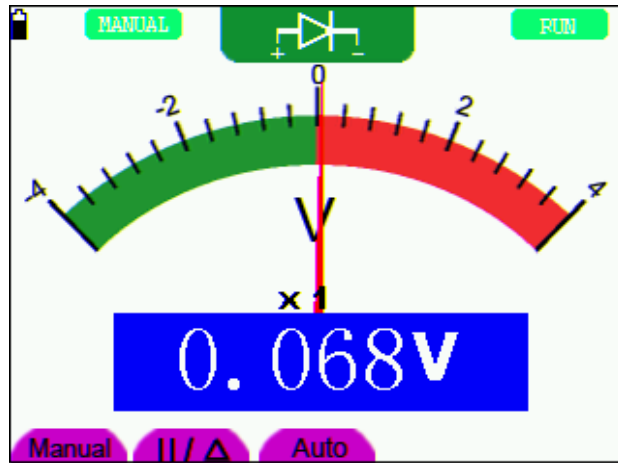

Figure 3: Diode Measurement
4. Connect the red and black leads to the diode and read the displayed voltage (V)
5. Reverse the test lead polarity and perform the test again Refer to the example display screen in Figure 3.